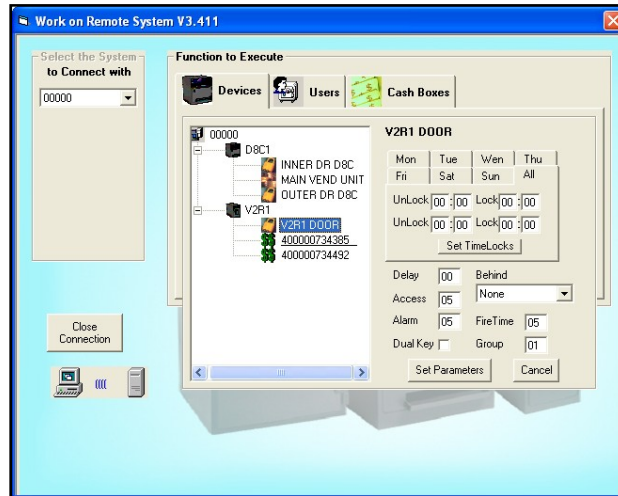

Fig. 8.14
- Selecting a lock from the list will open up the timer options for that particular lock (Fig. 8.14). Simply select “Set Parameters” to apply any changes that were made